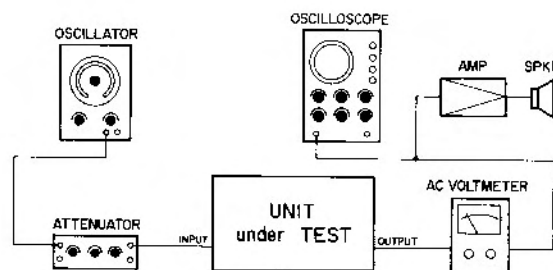

Fig. 2-14. Input Level Calibration
1. Connect the test equipment as shown in Fig. 2-14.
1. Connect an AF oscillator, oscilloscope, AF level meter (adjusted to 1 V range) and a 50k ohm load to the tape deck as shown in Fig. 2-14.
1. Connect the AF oscillator, oscilloscope, AF level meter, and a 50k ohm load to the tape deck as shown in Fig. 2-14.
1. Connect the test equipment to the tape deck as shown in Fig. 2-14 and load a blank test tape onto the tape deck.
1. Connect test equipment as shown in Fig. 2-14.
- * Check erasure, refer to item 2-11-10.